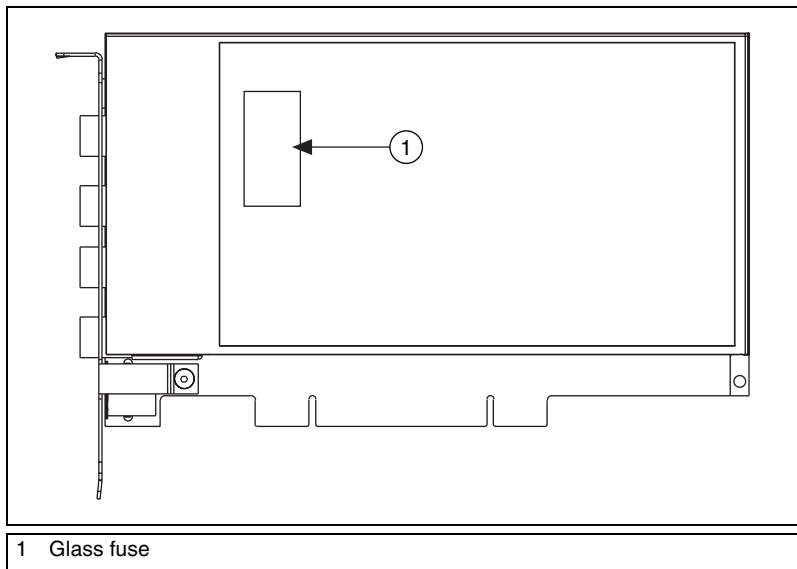

Figure 19. Removing the Fuse from the NI PCI-4060
5. Locate the 5 × 20 mm glass fuse shown in Figure 19.